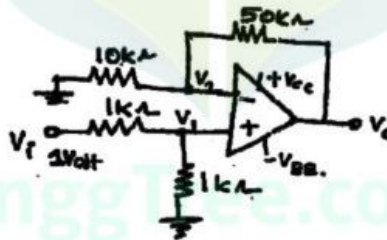

Fig. 1
3. Determine the output voltage V_0 for the non-inverting amplifier circuit shown in Fig.1.